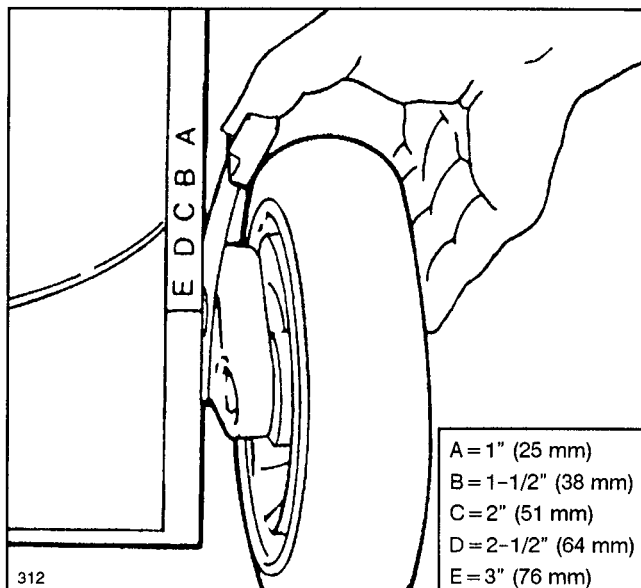

Figure 15
Five letters cast into the housing represent the height-of-cut settings (Fig. 15).
2. For easier adjustment, lift housing up so wheel is off ground. **Do not put fingers under housing when lifting.** Squeeze adjusting lever toward wheel and move to desired setting (Fig. 15). Ensure pin on adjusting lever engages notch in housing. Adjust all wheels to the same setting.